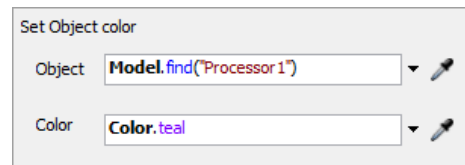

Fig. 18 Set Object Colour
4. **Set Object Colour** – allows you to set the colour of the object selected in the Object field (Fig. 18).